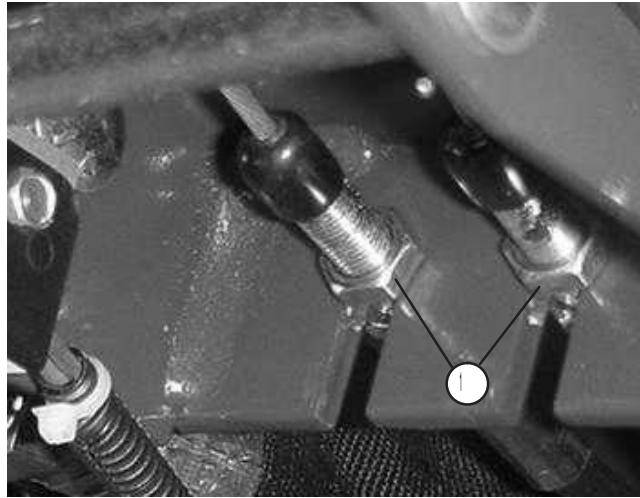

Figure 66
- To reduce free travel of turn pedals—tighten the brakes—loosen front nut on threaded end of brake cable (Fig. 66). Then tighten rear nut to move cable backward until turn pedals have 1/2 to 1 in. (13 to 25 mm) of free travel. Tighten front nut after brakes are adjusted correctly.